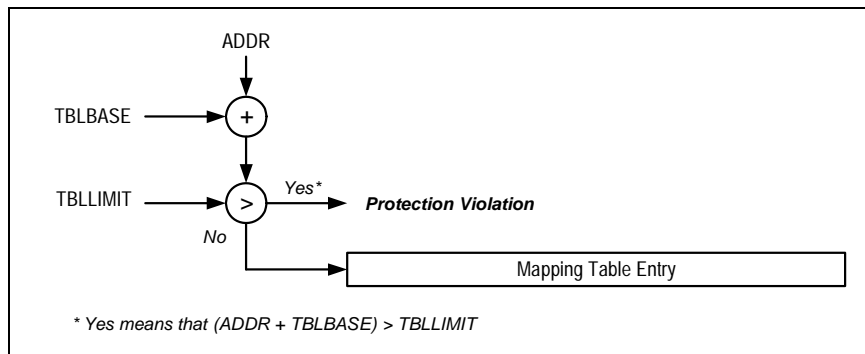

Figure 14.6 NT Table Partitioning
- The translation process is shown in Figure 14.6.